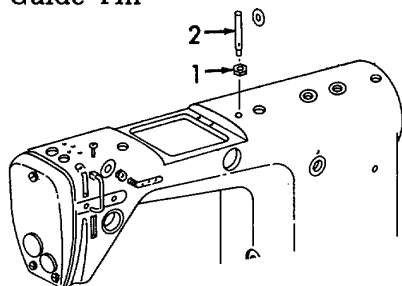

Figure 6-21. Needle Thread Guide, Removal.
a. Removal (Refer to Figures 6-21 and 6-22).
- (1) Refer to Figure 6-21. Loosen locknut (1).
- (2) Unscrew and remove needle guide pin (2).